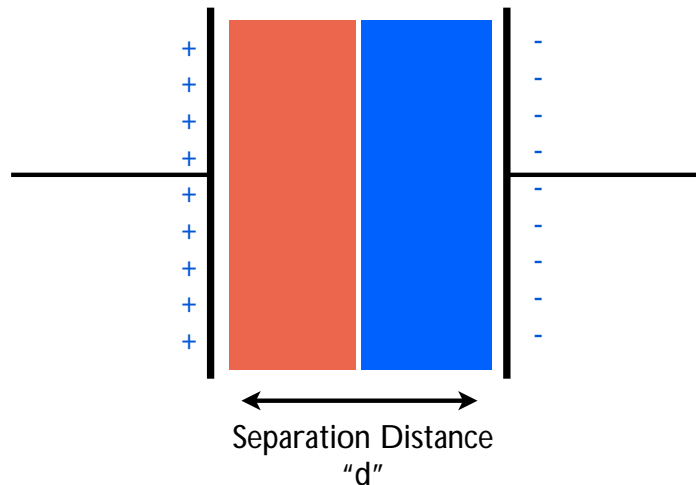

Figure 4: Parallel plate capacitor filled with two different dielectrics: ϵ_1 ; ϵ_2 .
3. Devise (and perform) an experimental procedure to verify that a parallel plate capacitor filled with two different dielectrics (nylon and vinyl) placed in parallel, side by side (see Fig. 4), behaves as two separate capacitors in series. Record some values of the capacitance. Remember to measure the thickness of the nylon and vinyl sheets. **Hint: you may want to have the plates as close as possible.**
4. Show that the capacitance for the setup in Figure 4 is given by